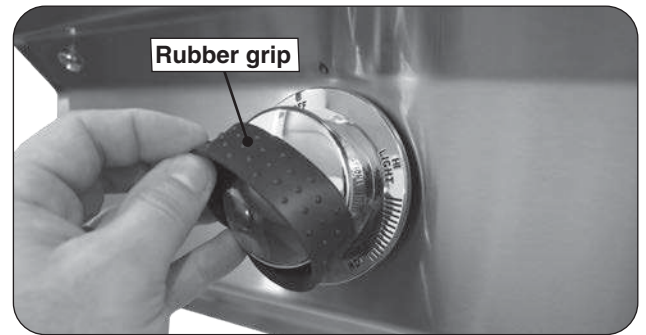

Fig. 29-1 Rubber grips removal
2. Remove the rubber grip from a control knob (see Fig. 29-1).